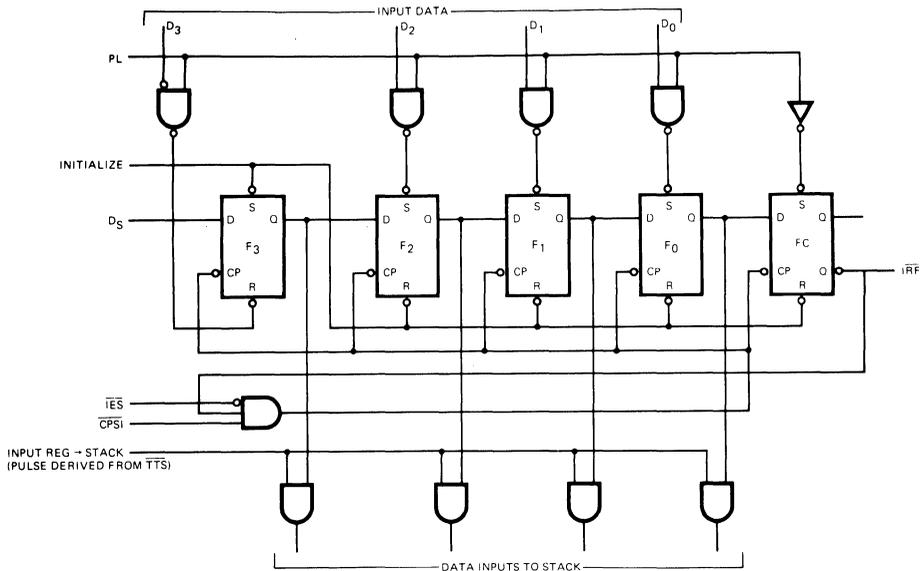

Fig. 1
Figure 1 is a conceptual logic diagram of the input section. As described later, this 5-bit register is initialized by setting the F3 flip-flop and resetting the other flip-flops. The Q-output of the last flip-flop (FC) is brought out as the "Input Register Full" output (\overline{IRF}). After initialization this output is HIGH.